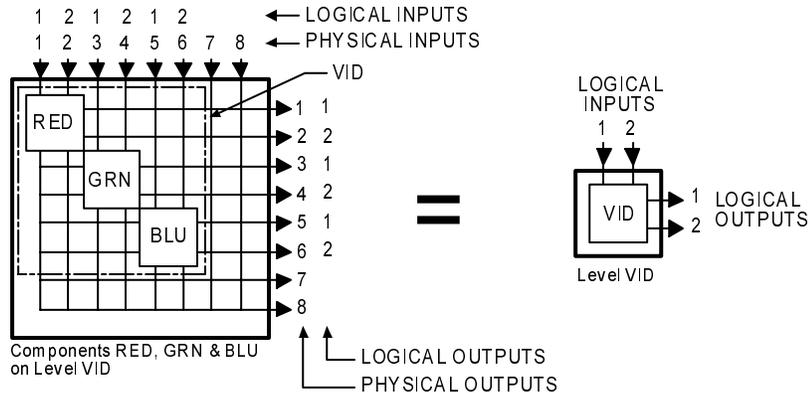

Figure 16 A 2x2 RGB Level
A level is a group of related components that are switched together by Win3500. The example shown in Figure 16 is a 2x2 RGB video level named VID which is made up of three components named RED, GRN and BLU.
2. Enter the level name in the **Level Name** box. Level names are one to eight characters in length and are constructed using uppercase letters, numbers, and spaces. The first character must be a letter. For the example shown in Figure 16, “VID” would be used.
3. Specify the **Number of Inputs** and **Number of Outputs** for the Level. The maximum number of inputs or outputs per level is shown in Table 1 on page 1. The inputs and outputs referred to here are logical inputs and logical outputs. For the example shown in Figure 16, “2” and “2” would be used.